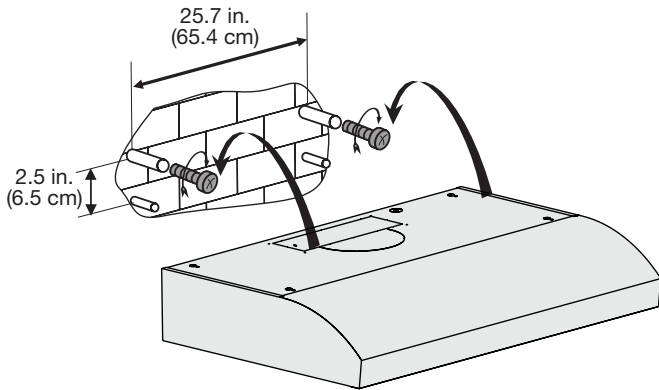

Figure 14
- Mark or drill four \varnothing 8 mm holes on the mounting position according to the dimensions on Figure 14.